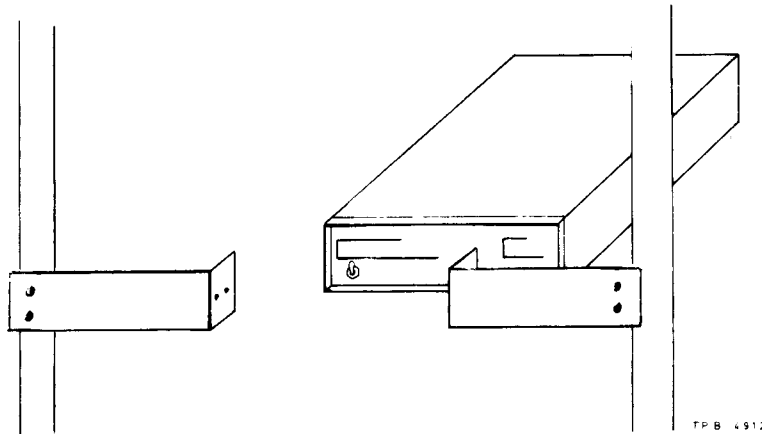

Fig. 1 Single unit rack mounting
3. For rack mounting the 2610 voltmeter alone, a single unit rack mounting kit 46883-638P is available. This contains a pair of side angle plates wide enough to allow the instrument to sit centrally within the 19 inch rack frame - see sketch Fig. 1.